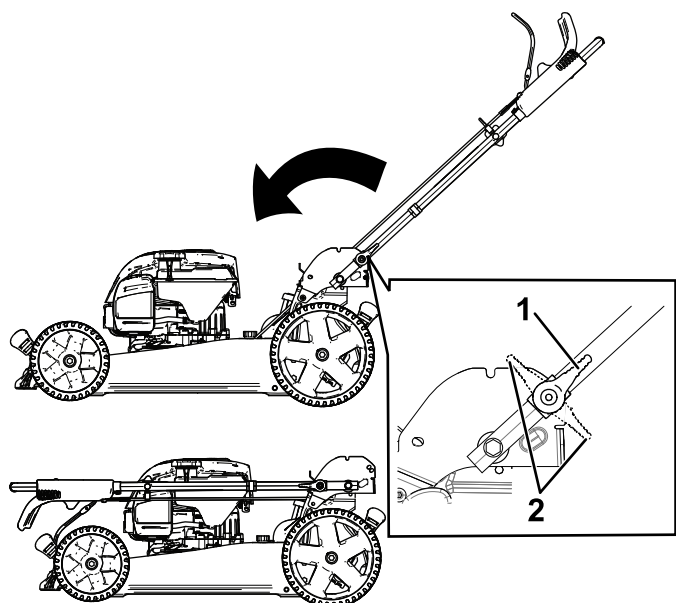

Figure 20
3. Disengage the handle locks (Figure 20).
4. Fold the handle fully forward (Figure 20).